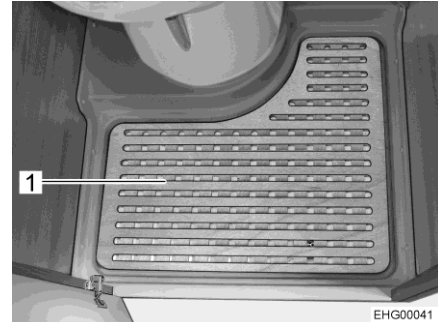

Fig. 125 Removable floor plate
- Take out the removable floor plate (Fig. 125,1) for showering.